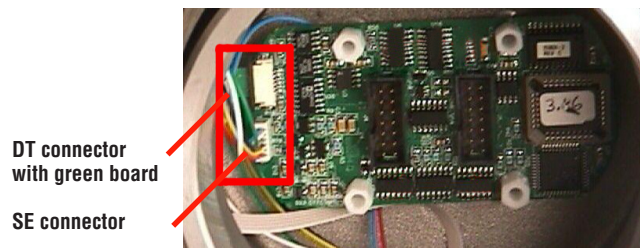

Figure 6. SE and DT connector locations
6. Disconnect the white sensing element (SE) 6-pin connector from the bottom board (pull straight out) and remove the white DT ribbon cable connector with a small green connector card if present (slide wing outward and pull connector out parallel to the PCB sideways) (Figure 6).